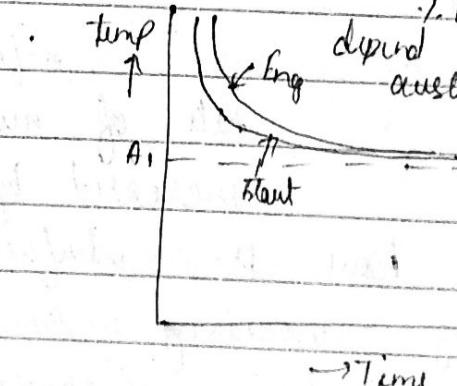

Fig: 3
- 4.) For the formation of austenite at a constant temperature, the rate of heating should be very, very slow, and in that case α , the curves of fig: 3 will merge with temperature A_1 .